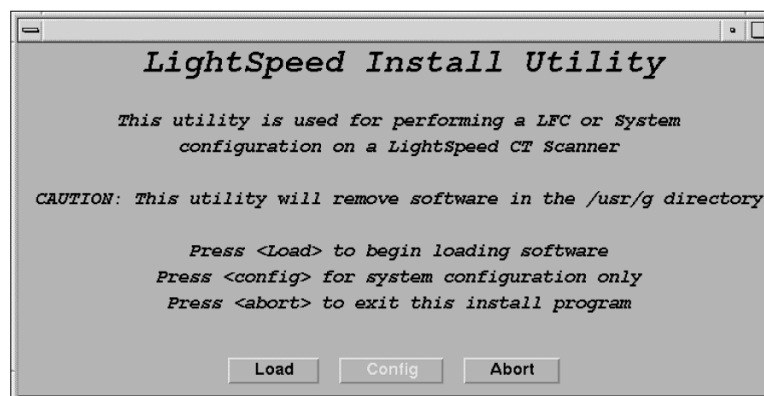

Figure 1-5 Install Utility Window
9.) Wait for the window shown in Figure 1-5 to appear, before proceeding to the next step.